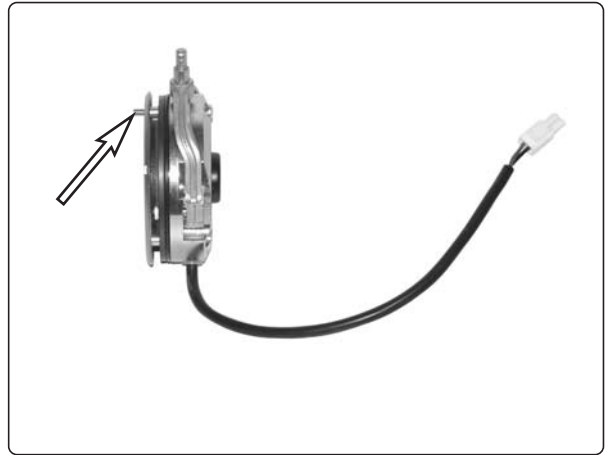

Fig.21. Use one of the fixing bolts to align the parts with one another.
4. Insert a bolt to align the parts then secure the magnetic brake using the three bolts, see fig. 21.